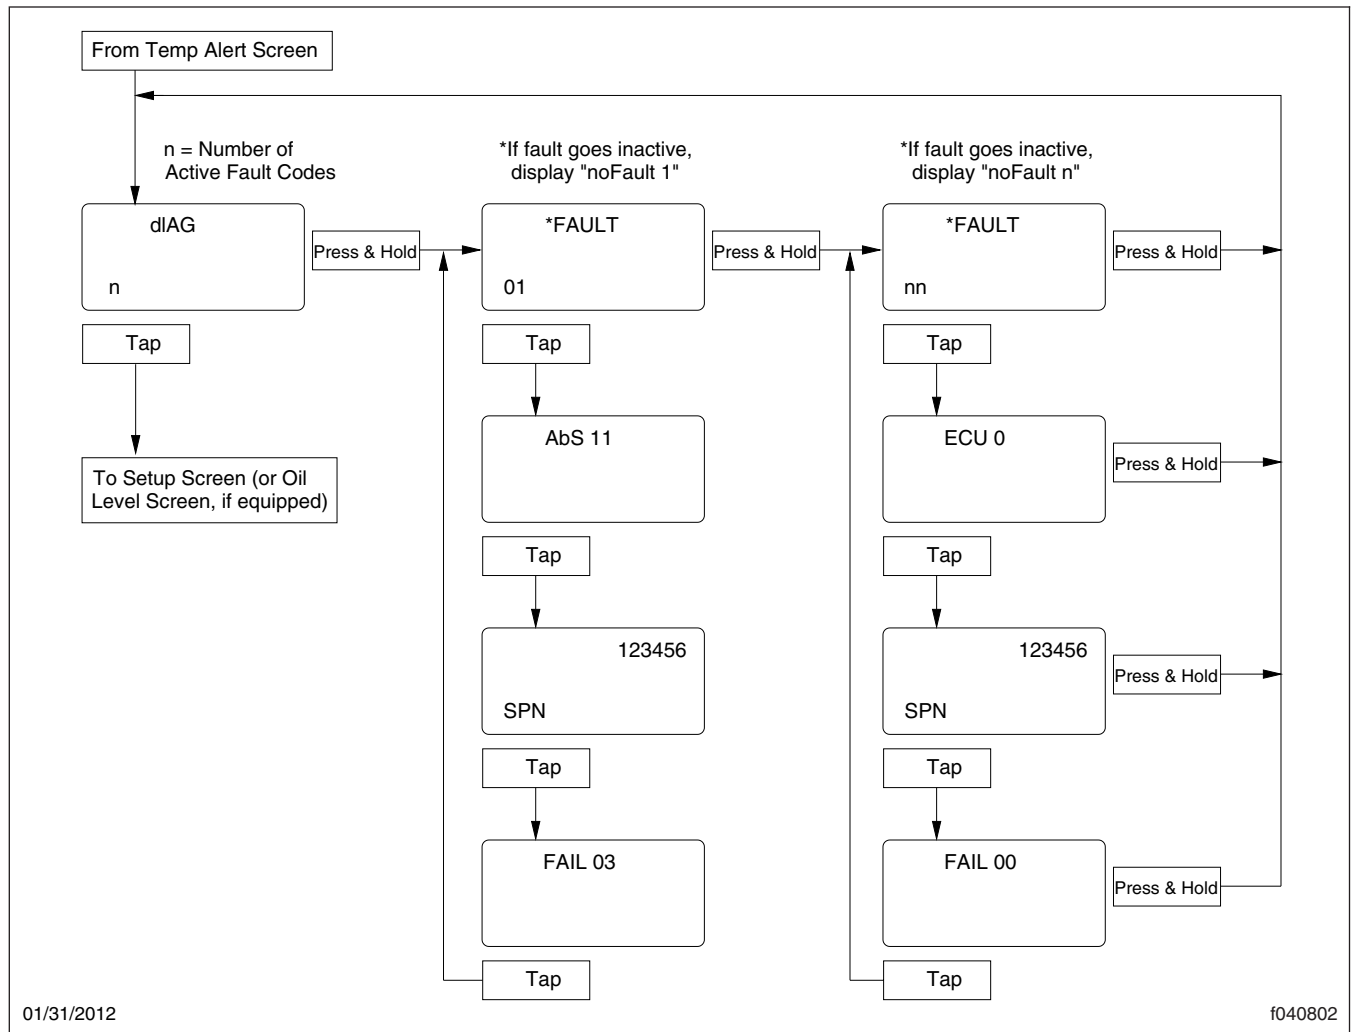

Fig. 4.8, ICU4 Diagnostic and Engine Display Screens
During vehicle start-up, with the parking brake set, the ICU4 will display any active fault codes for three seconds each until the parking brake is released. If service cycle screens are enabled and service distance or time has been exceeded, the text SERVICE HOUR/MI (KM) will be displayed to inform the driver that the service interval has been exceeded and vehicle service is required. See Fig. 4.8 for the diagnostic and engine display screens.